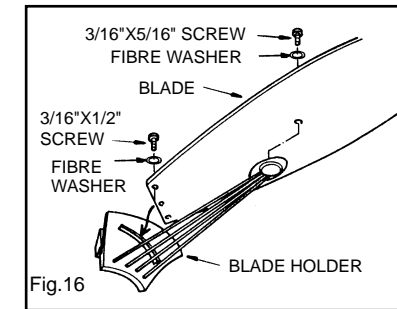

Fig.16
Step 1.Insert the fan blades into the blade holders using the screws & washers provided(Fig 16).